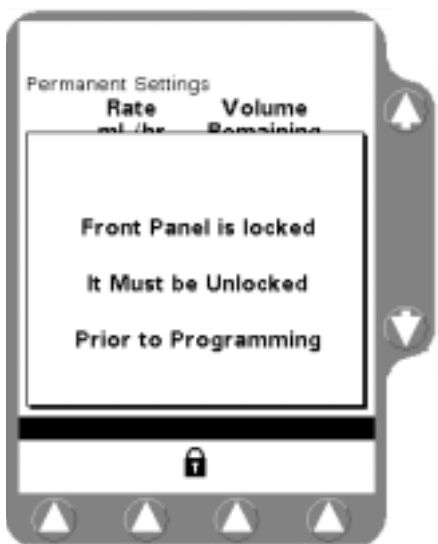

Figure 3-28 Front Panel Locked
**Note:** If disabled keys are pressed when the keypad is locked, the Panel Locked Pop-up is displayed (Figure 3-28).